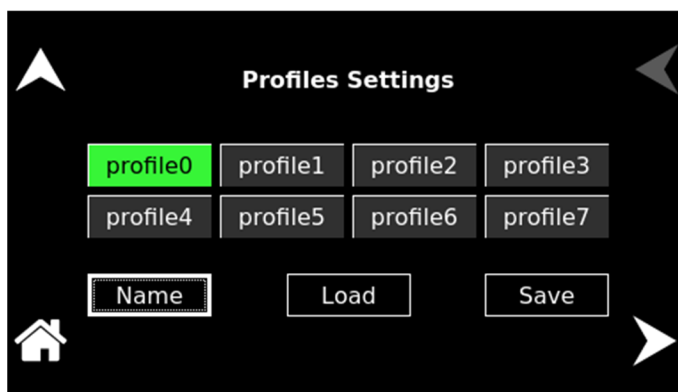

Figure 8-14. CONFIGURATION Menu, PROFILES Selection
2. Tap on the PROFILES field in the CONFIGURATION menu; refer to Figure 8-14.